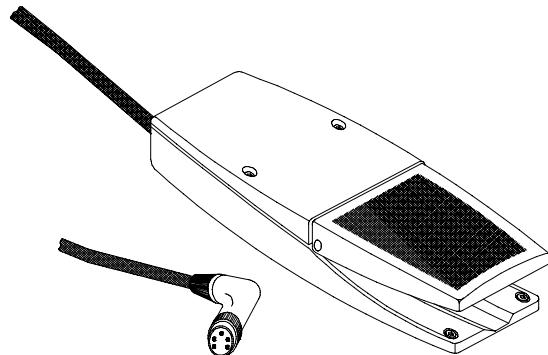

Figure 91. Foot pedal with interlock plug.
- The second emergency stop installation is located in the foot pedal (fig. 91).